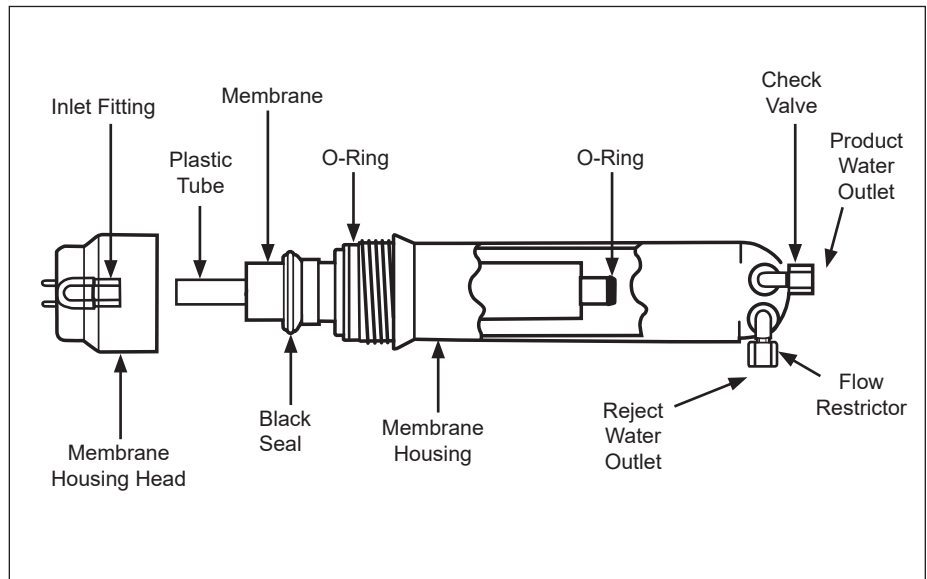

Figure 8. Installing the RO Membrane
4. Insert the RO membrane into the housing as shown (Figure 8). Make sure to insert the membrane black seal into the housing last.